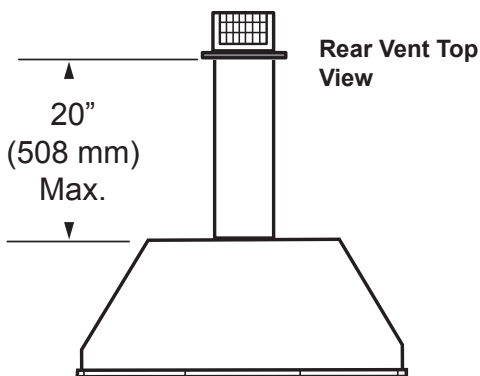

Figure 32 -
- The maximum horizontal distance between the rear of the appliance (or end of the transition elbow in a corner application) and the outside face of the rear wall is 20" (508 mm). *Figure 32*
Measure the horizontal length requirement for the venting including a 2" (51 mm) overlap, i.e. from the elbow to the outside wall face plus 2" (51 mm). *Figure 32*